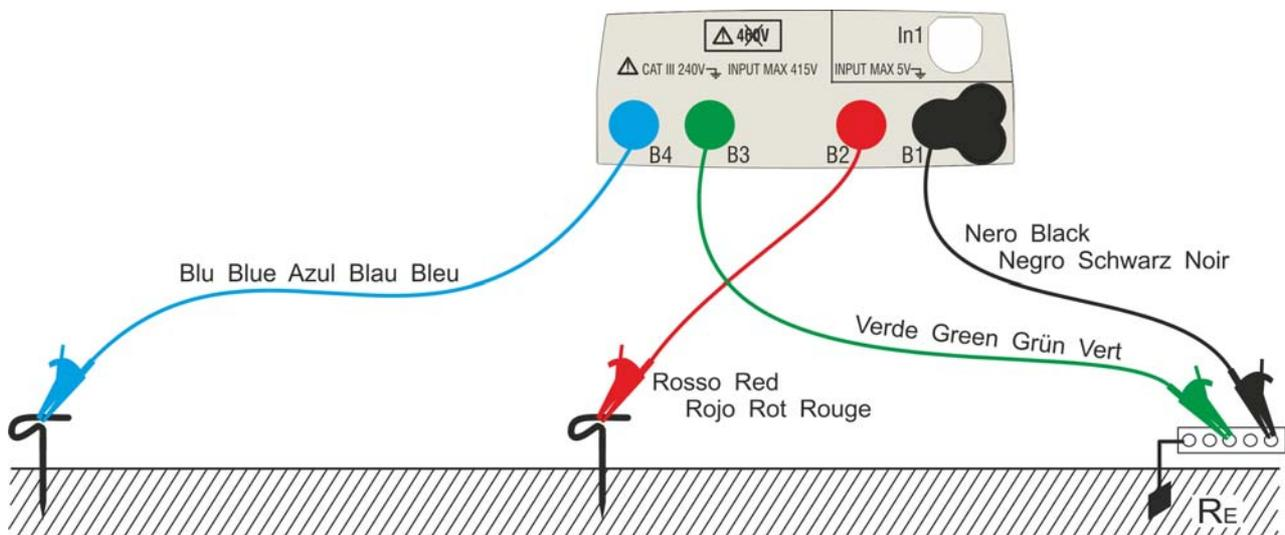
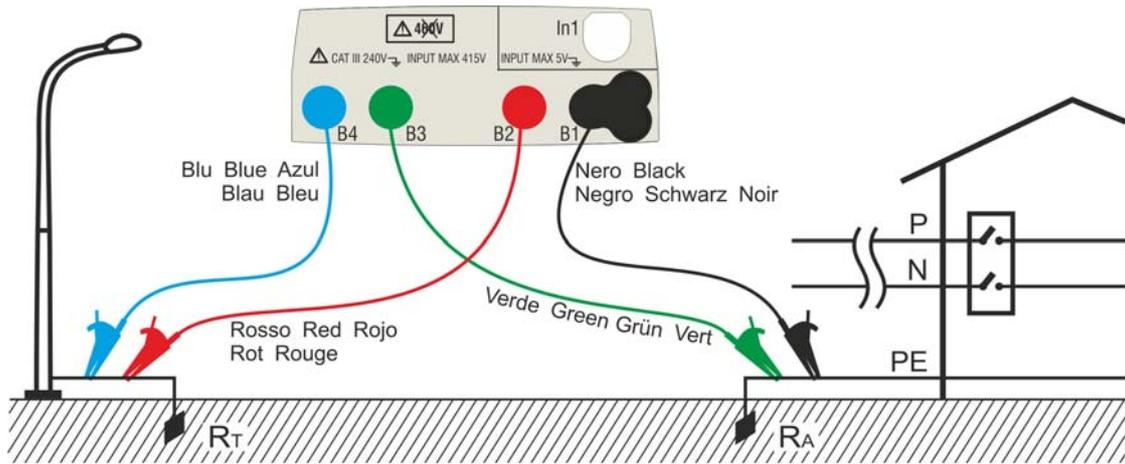
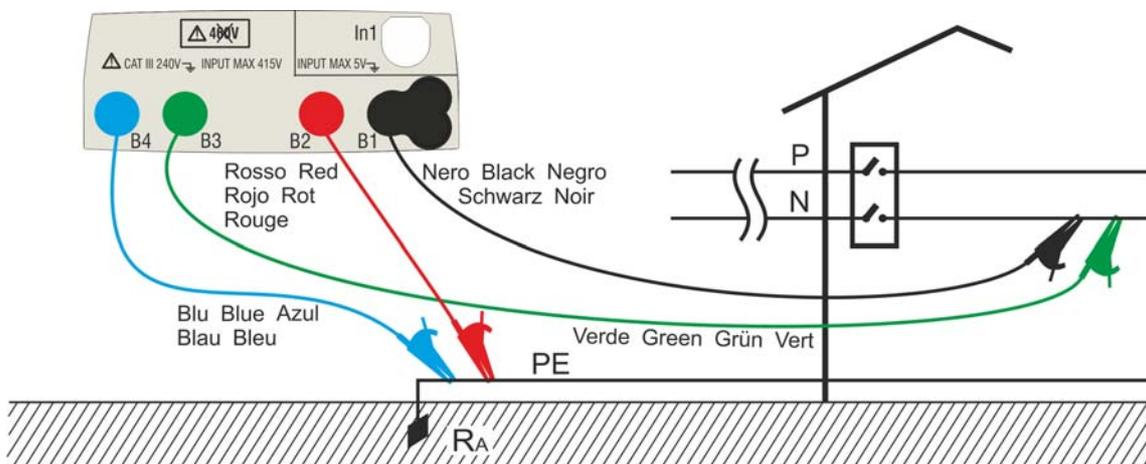
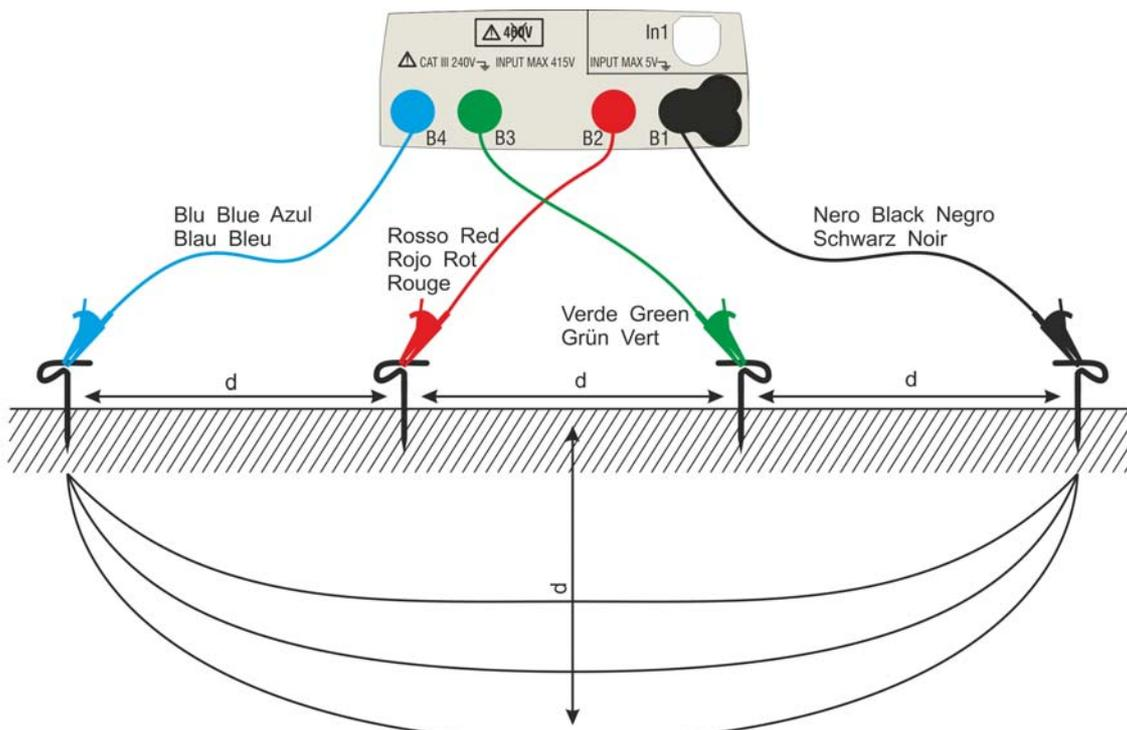

Fig. 26: Three-wire earth resistance measurement
Fig. 27: Two-wire earth resistance measurement using an auxiliary rod
Fig. 28: Two-wire earth resistance measurement from the panel board
Fig. 29: Ground resistivity measurement
- 12 Connect the alligator clips to the auxiliary rods and to the installation under test according to Fig. 26, Fig. 27, Fig. 28 or Fig. 29.